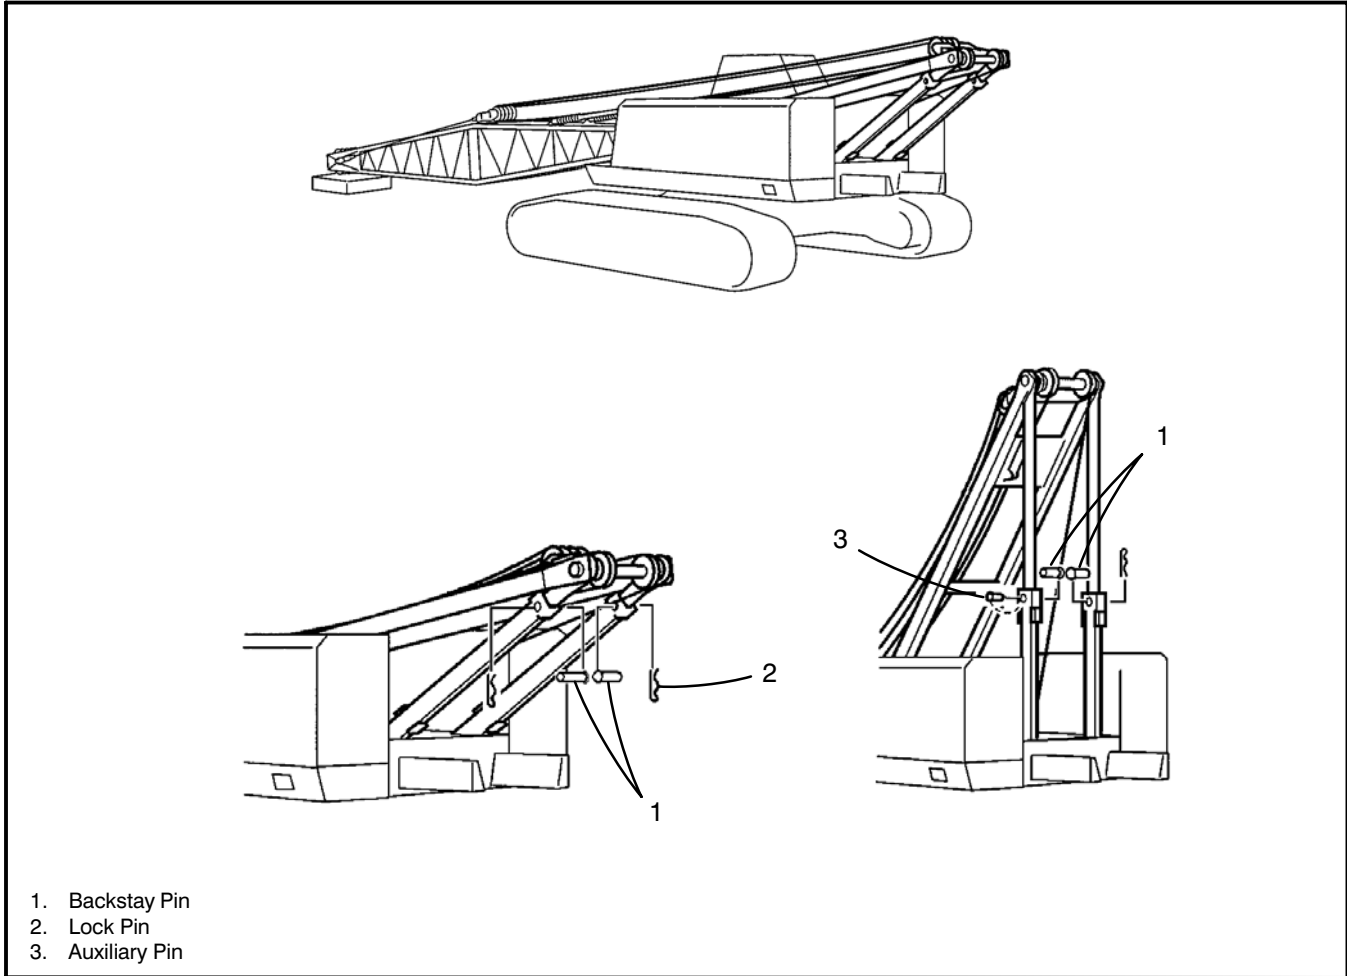

Figure 1-74
4. Remove the left backstay lock pin and pin and install auxiliary pin. Refer to Figure 1-74.